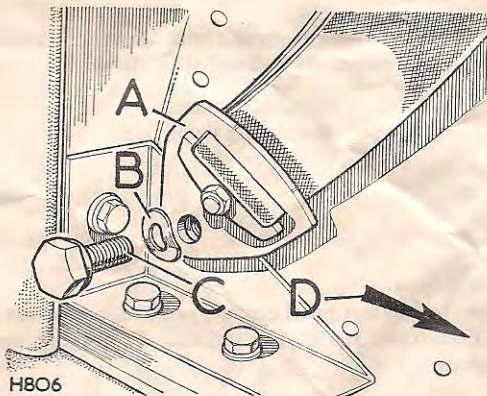

Fig. 1 Showing diagonal strap buckle fitting to sill bracket right-hand illustrated
1. Remove the blanking plug from sill bracket, and fit the adjusting buckle 'A' of diagonal strap to bracket with wave washer 'B' and screw 'C', as shown at Fig. 1.